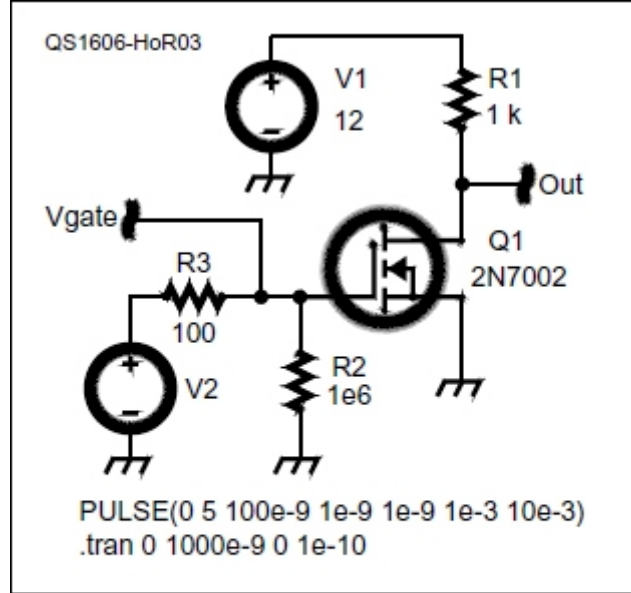

Figure 3 — The *LTSpiceIV* circuit for an FET switch to show how the Miller effect increases the FET input capacitance.
The Miller effect can be observed fairly easily by turning on an FET while watching the gate voltage. Figure 3 shows an *LTSpiceIV* schematic that we'll use for a circuit simulation that shows the effects of C_M .
Figure 4 — The gate (blue) and drain (red) waveforms for a 2N7002 MOSFET (A) in the circuit of Figure 3. V_{gs} is held at 2.5 V by the Miller effect while the drain voltage is changing from OFF to ON. (B) shows the same effect on the much larger IRF510 MOSFET with the higher threshold voltage of 4.0 V.